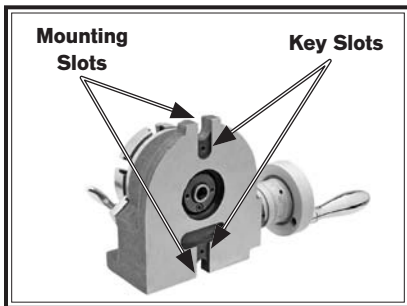

Figure 3. Locations of the horizontal base key slots and mounting slots (Model SB1363 shown).
The horizontal base has slots (see **Figure 3**) that accept keys for quick alignment with the mill table. Because of the many variations in mill table T-slots, these keys are not provided with the rotary table. If you choose to use keys for alignment when installing the rotary table horizontally, you will have to machine them to fit the rotary table and your mill table.
2. Position the rotary table horizontally on the mill table so that the mounting slots shown in **Figure 3** are aligned with the mill table center T-slot.